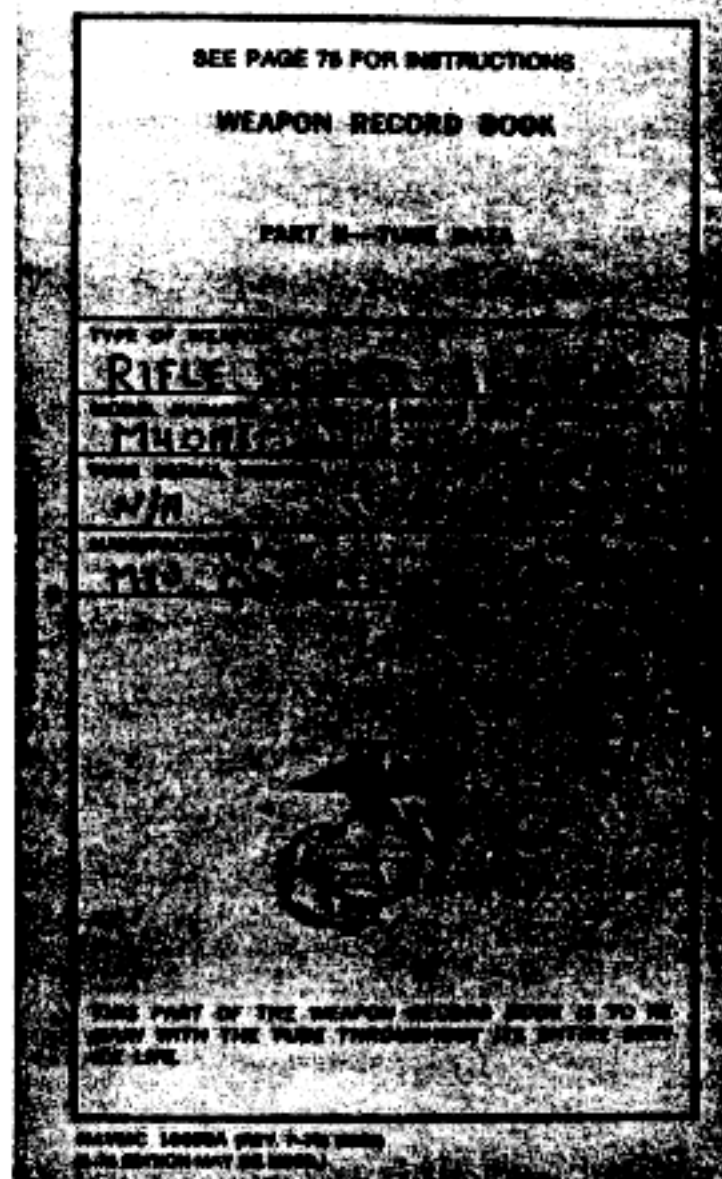

Figure 1-3. NAVMC 10558A, Weapon Record Book, Part II.
(1) Front cover. This page will be filled out when the rifle is received at the using unit. No further entries will be made on it. See figure 1-3.